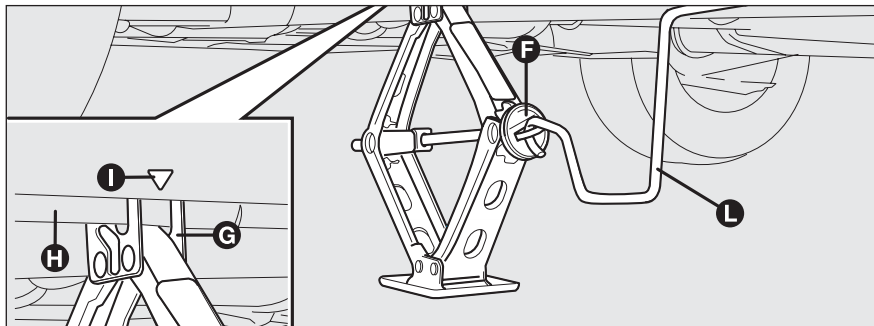

fig. 13
- ❑ operate the device **F**- **fig. 13** to expand the jack, until the groove **G** on the upper part of the jack is correctly inserted on the lower edge **H** of the body at indication **I** (at approximately 60 cm from the front wheel centre or 80 cm from the rear wheel centre);
- ❑ fit the handle **L**-**fig. 13** to operate the jack and lift the car until the wheel to be changed is several centimetres off the ground;